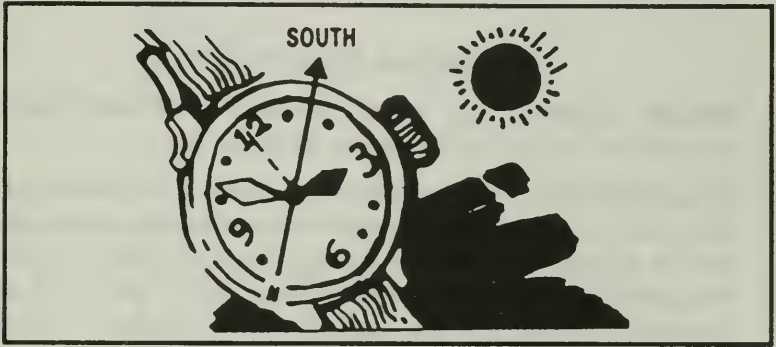

Figure 43. Watch method.
a. You can also find direction with your watch. It is not as accurate as the shadow-tip method. North of the equator (Northern Hemisphere), this is how it works: Point the hour hand at the sun. South will be halfway between your hour hand and 12 o'clock (Figure 43). (Try this in a place where you already know the directions to prove that it works.)